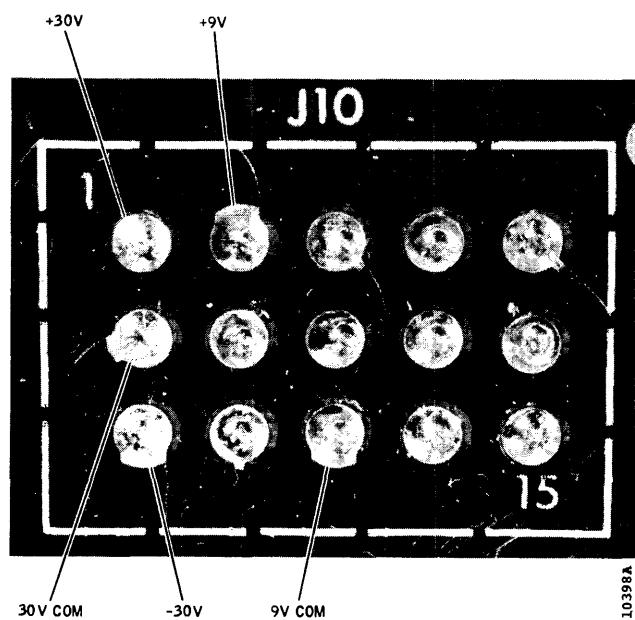

Figure 3-4. Dc Voltage Check Points
- Locate connector J10 on the Power Supply circuit board (see Figure 3-4) and check for in-tolerance dc voltages between the pins listed below: